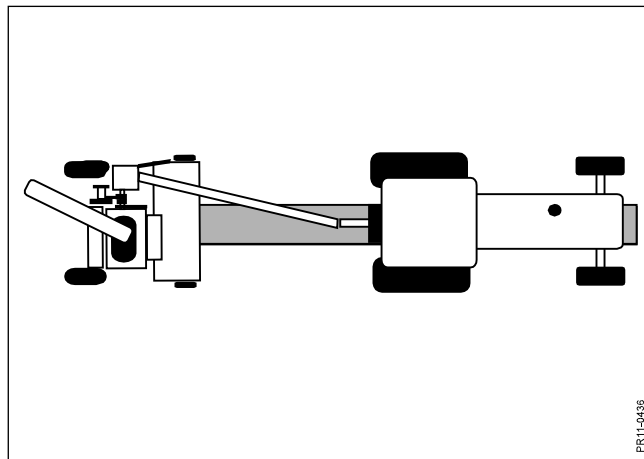

Fig. 5-9
- Fig. 5-9** 3) Here the chopper works in-line as the tractor drives over the swath. This technique is of course very suitable for picking up single swaths as you avoid that the tractor drives on the crop. The technique is still suitable for unloading to both sides and brings the tractors close to each other.
The PTO shaft should work with a deviation of maximum 20°. For sharp turns to the right it is therefore recommended that the drawbar is moved to transport position or a position corresponding to working in-line (see Fig. 5-9.)